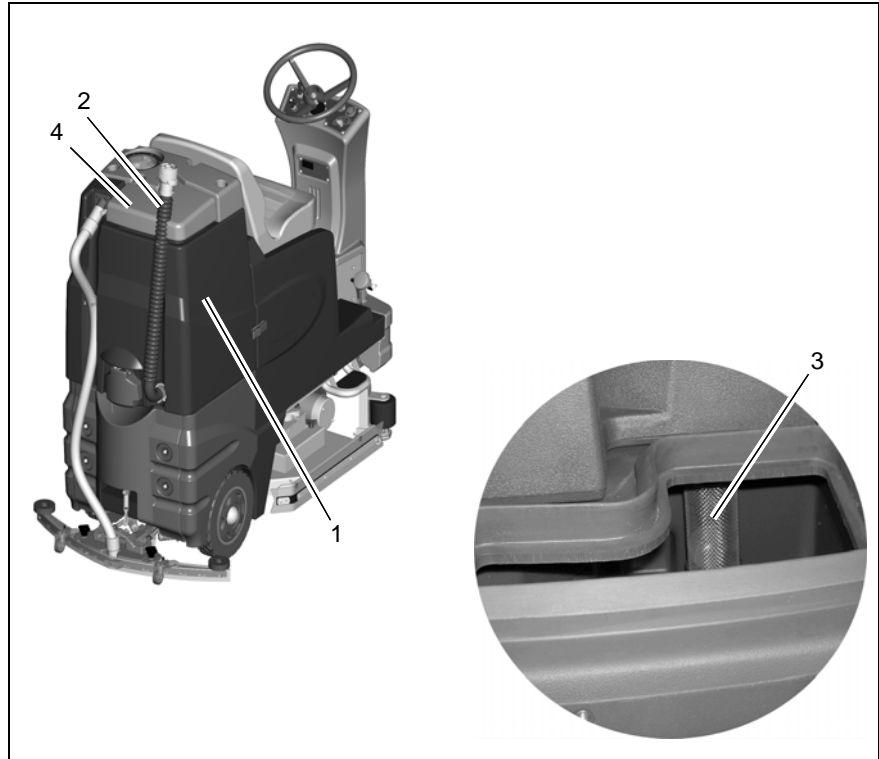

Fig.16
Clean recovery tank (Fig. 16/1) at daily intervals, as required or upon acoustic signal (increased vacuum motor speed).
4. Take drain hose (Fig. 16/2) from holder and empty recovery tank completely.
Clean recovery tank (Fig. 16/1) at daily intervals or as required.
2. Open tank lid (Fig. 16/4) of the recovery tank.
3. Take drain hose (Fig. 16/2) from holder and empty recovery tank completely.
Check suction filter (Fig. 16/3) at daily intervals and clean if required. The suction filter can be easily removed by pulling downward.